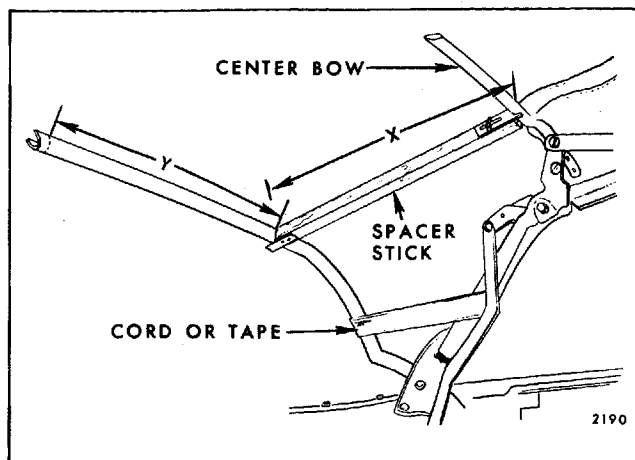

Fig. 6-52—Spacer Stick Installation
1. Preset spacer sticks to shortest length and install between center and rear roof bow (Fig. 6-52). Adjust sticks so that dimension "X" in Figure 6-52 (measured along spacer stick from front upper rolled edge of rear roof bow to center of center bow) is 14-7/8" on "B &